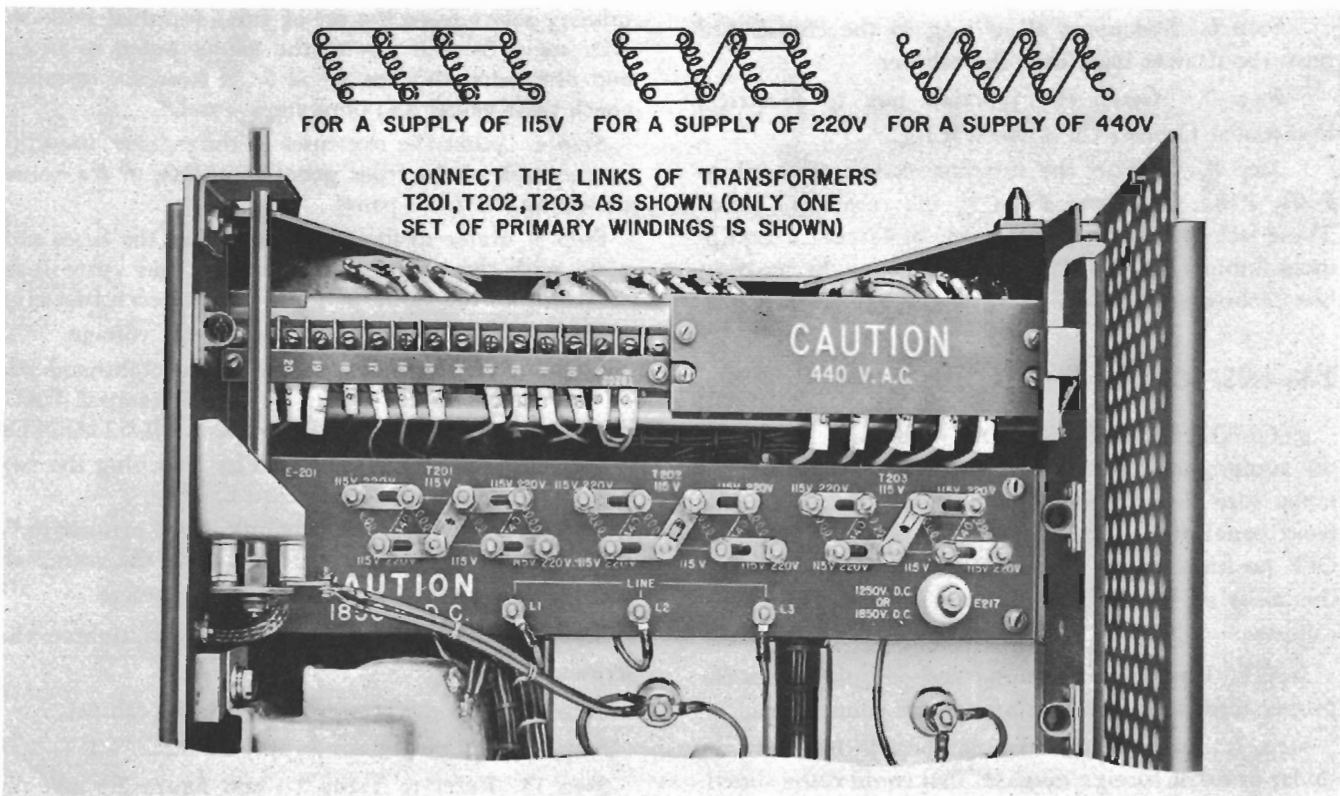

Figure 2-5. Power Supply PP-2222/WRT, Power Input Adjustments
Step 13. Refer to Table 2-1 and figure 2-5 and determine the fuse rating for fuses F201, F202, F203, F205 and F206, as dictated by the ship's supply voltage.
Step 15. Insert the seven fuses in the proper fuse clips located on the back of the front panel of Power Supply PP-2222/WRT as shown in figure 2-5.
The fuse warning indicating lamp circuit must also be set according to the ship's supply voltage. The adjustment for the indicating lamp circuit is located on board E202. E202 is mounted on the left side of Power Supply PP-2222/WRT near the front of the drawer as shown in figure 2-5.
Step 17. Refer to figure 2-5 and locate interconnection boards E201 on top of Power Supply PP-2222/WRT toward the rear of the drawer.